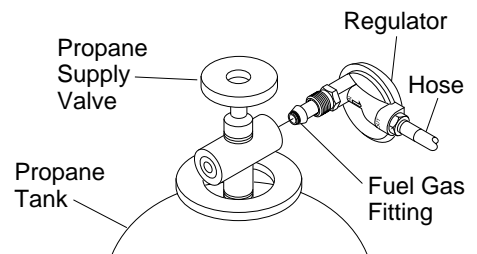

Figure 3 - Regulator Position
2. Connect fuel gas fitting on hose/regulator assembly to propane tank(s). Turn fuel gas fitting counterclockwise into threads on tank. Tighten firmly using a wrench. **IMPORTANT:** Position regulator so that hose leaving the regulator is in a horizontal position (see Figure 3). This places the regulator vent in the proper position to protect it from the weather.